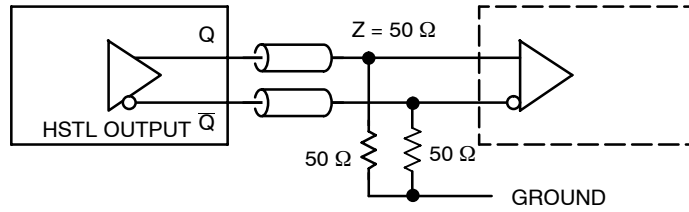

Figure 6. HSTL Output Termination and AC Test Reference
3. All outputs loaded with 50 Ω to GND (See Figure 6).
4. Measured with 750 mV (LVPECL) source or 1 V (HSTL) source, 50% duty cycle clock source. All outputs loaded with 50 Ω to ground (See Figure 6).